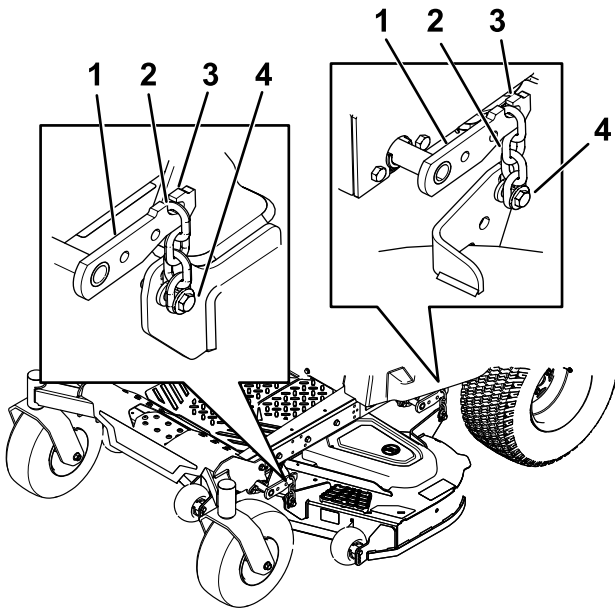

Figure 61
6. Lift the rear of the mower deck and attach the chains to the rear lift arms (Figure 61).
7. Attach the front chains to the front lift arms (Figure 61).
7. Remove the chains from the hooks on the deck-lift arms (Figure 61).